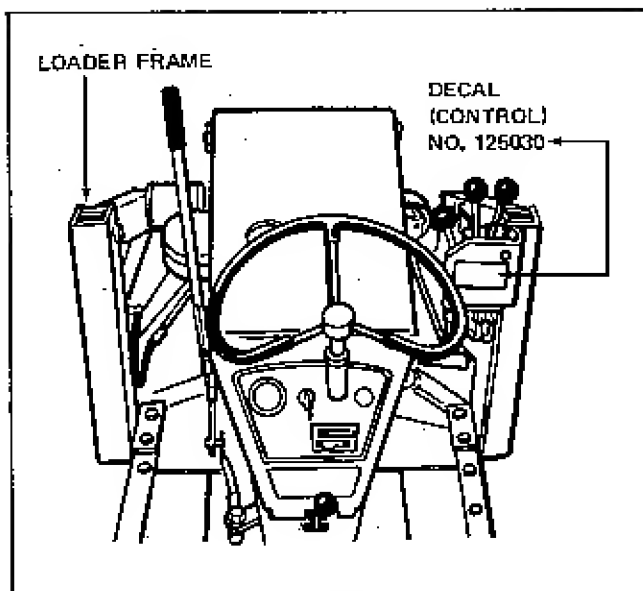
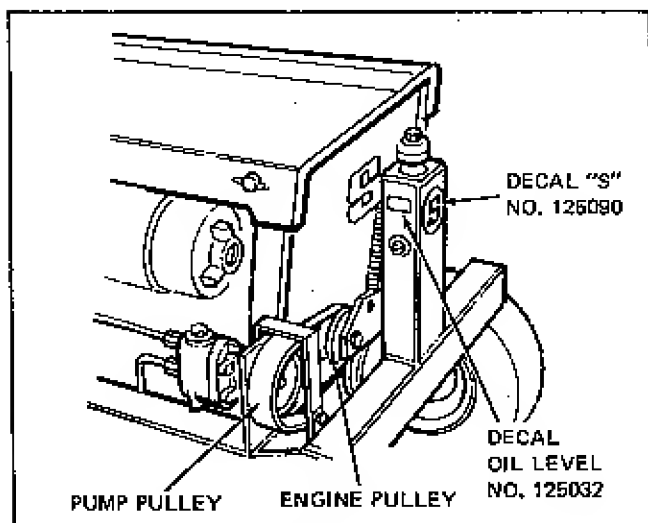

Figure 9.
Figure 10.
13. Install loader frame on tractor using the 1/2 x 1-1/4" capscrews, lockwashers and nuts provided. See Figure 9. During installation of loader, install V-Belt around engine pulley, making sure the hydraulic pump pulley and engine pulley are running true to each other for good belt alignment. See Figure 10.